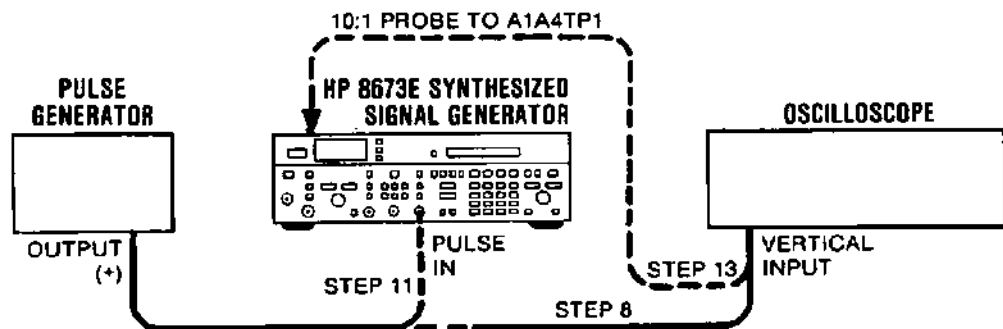

Figure 5-32. Series Pulse Width Adjustment Test Setup
- Connect the equipment as shown in Figure 5-32.